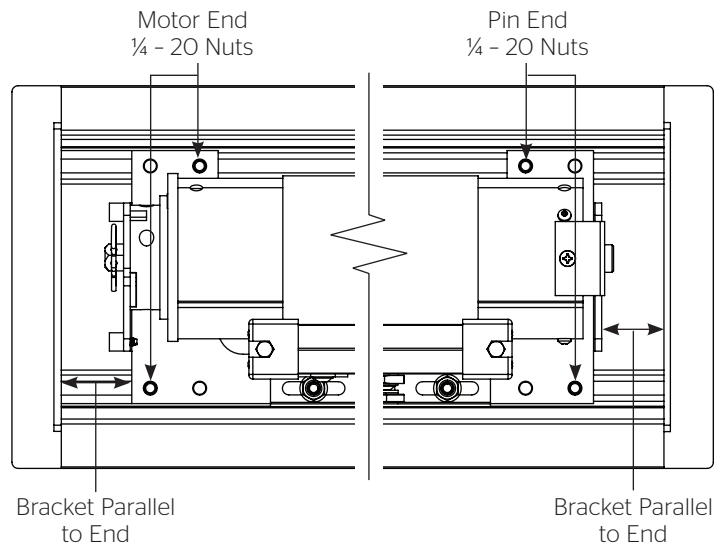

Figure 17
3. Install ViewShare screen and roller assembly by placing the unit inside of case and secure motor end bracket by aligning bracket holes with bolts. Secure with two ¼ - 20 nuts (Figure 17).
4. After the motor end is completed in Step 3, secure pin end by aligning bracket holes with bolts. Secure with two ¼ - 20 nuts (Figure 17).
5. Once both ends are secured, ensure that the mounting brackets are parallel with both ends of the case (Figure 17).